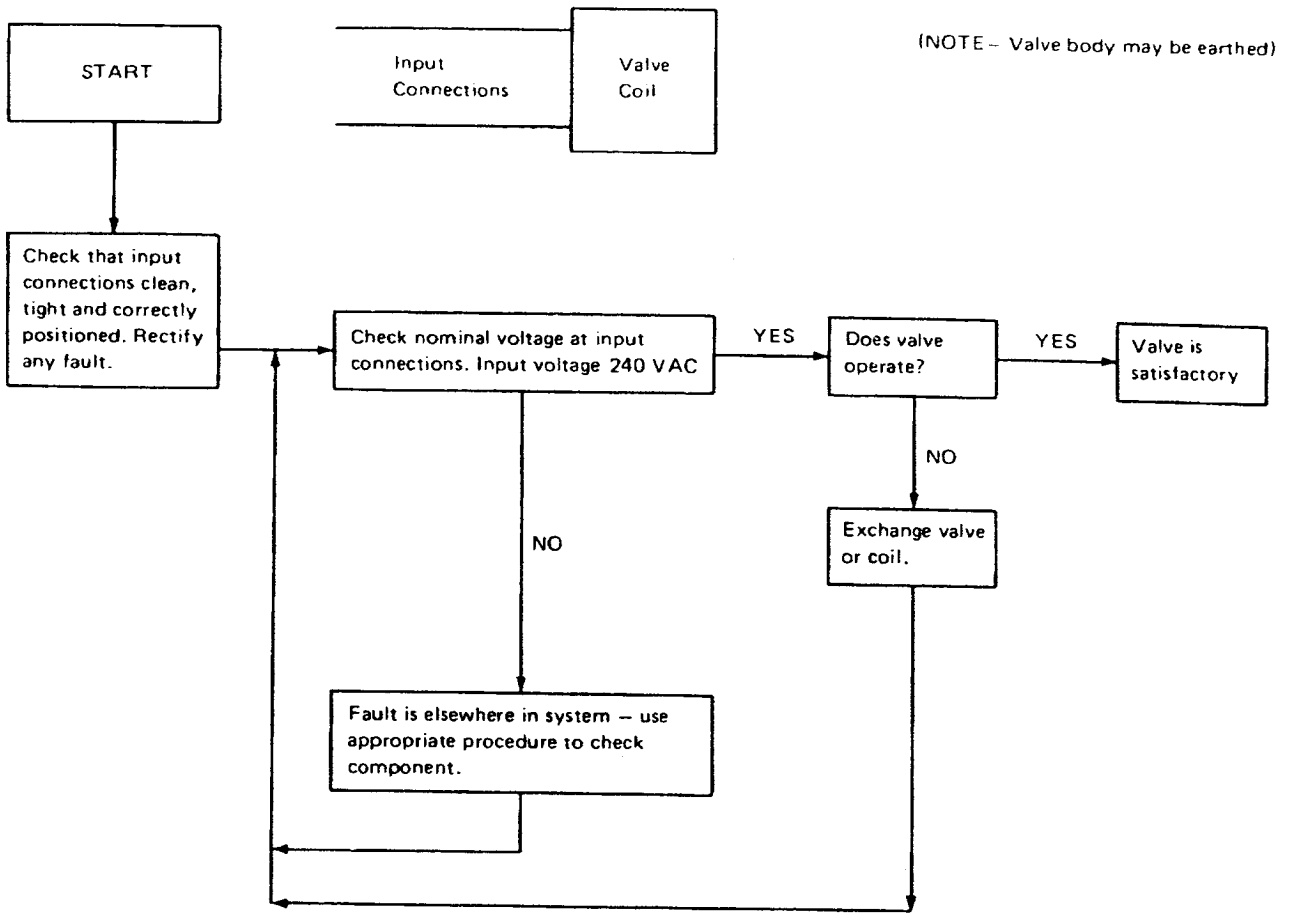

FIG. 16 SOLENOID VALVE
| C. Main burner fails to light, pilot burning | <p>(1) Check that boiler controls are calling for heat</p> <p>(2) Additional controls not calling for heat</p> <p>(3) S.I.T. Control solenoid valve failed</p> | <p>Note reading of thermostat dial and check temperature of flow pipe.</p> <p>Check programmer or clock is ON and that room thermostat or other distant control is not closed down. When electrical controls are used, check for current failure.</p> <p>Check for electrical supply at control valve terminals. If no supply, check contacts on programmer or clock. Check fuses. If correct then:— Solenoid valve has failed, replace as described. (See Fig.16 Solenoid Valve)</p> <p>(a) Disconnect electrical supply to the valve as described under 8.E.</p> <p>(b) Remove solenoid valve by unscrewing the two screws securing the solenoid valve to the base of the control valve.</p> <p>(c) Lift off the solenoid valve and its gasket.</p> <p>(d) Re-assemble in reverse order.</p> |